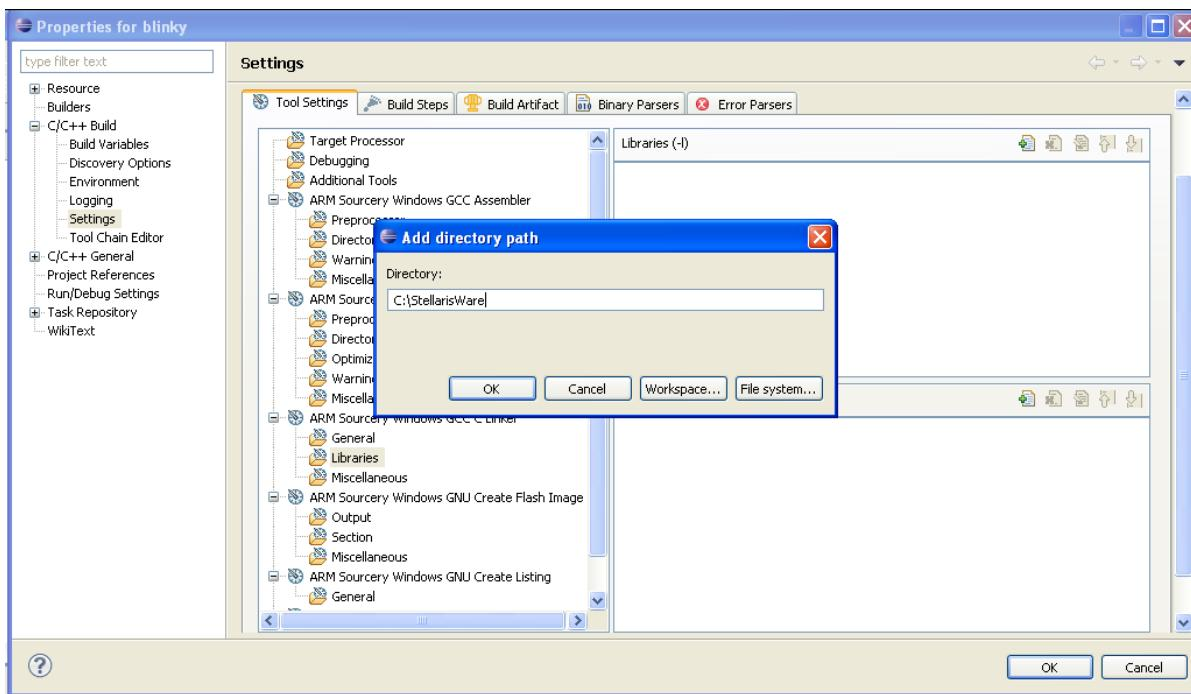

Figure 11.15 Add Directory Path
- Select Add Directory Path. A window similar to that shown in Figure 11.15 will be displayed.